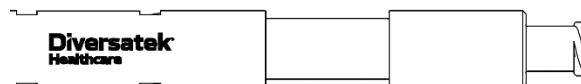

Figure 4: Piston Position “UP”
4. Retract the needle into its catheter to fully withdrawn position. (NOTE: the luer-lock piston part of the handle is retracted – Position UP) (Figure 4)
8. Following the injection(s), retract the needle until the needle piston “clicks” into the fully retracted position. (Figure 4 Position UP)
NOTE: When advancing or withdrawing the device from the endoscope, it is important to ensure that the needle is in its fully retracted position to avoid damaging the working channel of the endoscope (the inner luer-lock piston part of the handle is retracted – Position UP) (Figure 4).